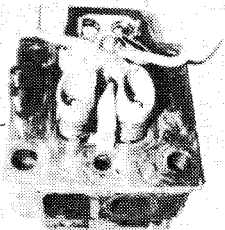

Fig 12-52 D
- 4 Unload the fool.** The spring retainers and the springs can now (fig. 12-52) be removed.